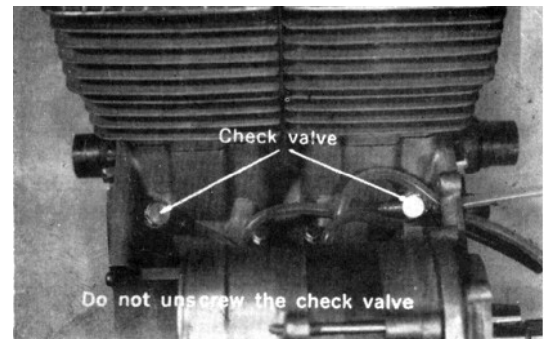

Fig. 15 Position of check valves
1. Disconnect oil tubes from the connector instead of disconnecting them from the check valves, to avoid air leakage. (Fig. 15)